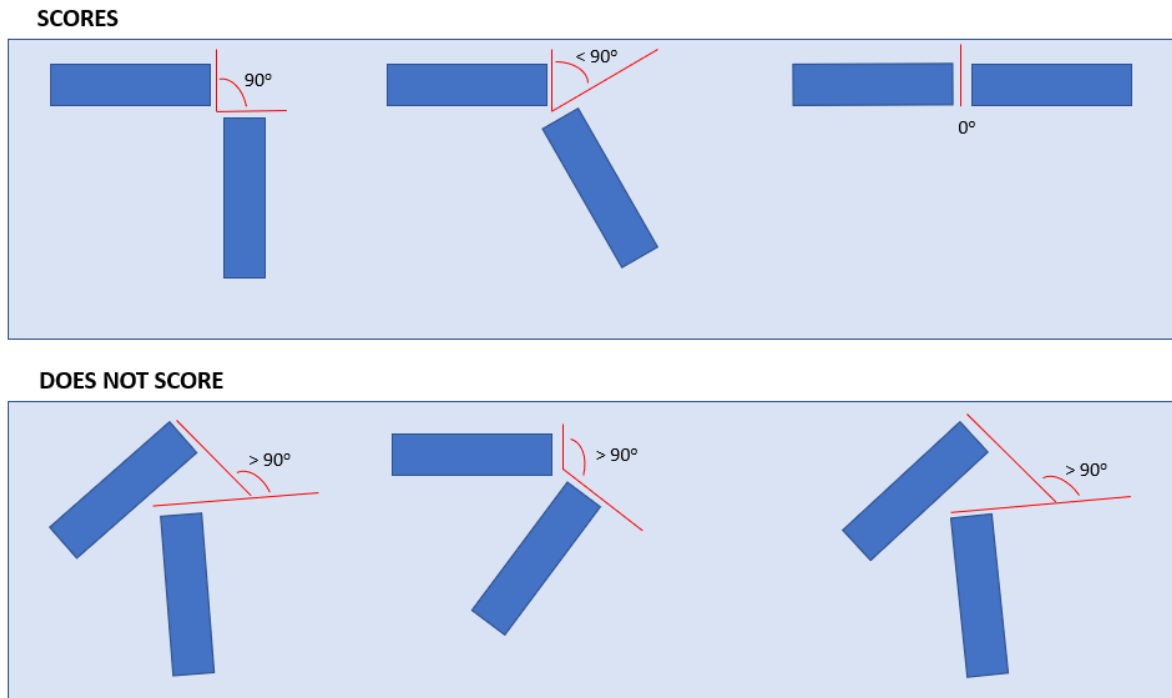

Figure 3.17 Fence Panel Connections, Angle Requirement
- ii. **Angle:** Short edges of two fence panels must be within 90deg of each other. See Figure 3.17 for examples.